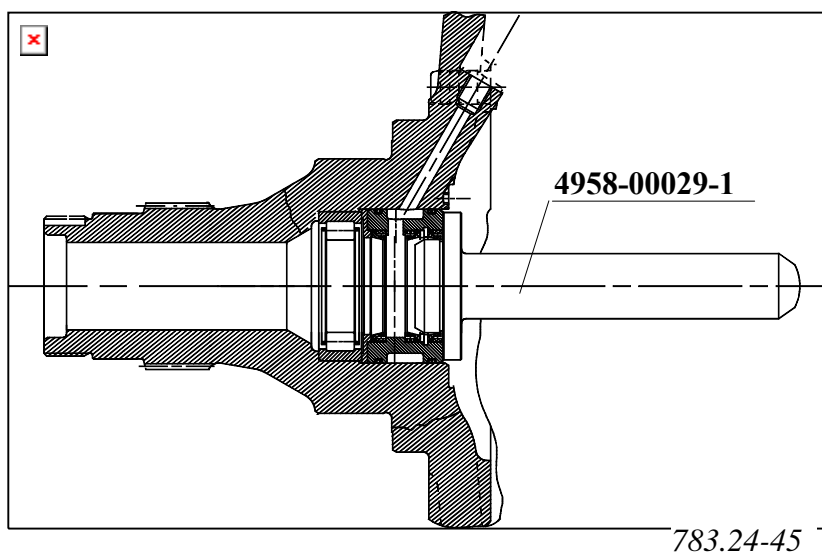

Fig. 4: PRESSING IN THE OIL SEAL SUPPORT
Insert the spacer (89) into the knuckle (83) and then push the pre-assembled seal retainer (86) up to bottoming (figure 4).